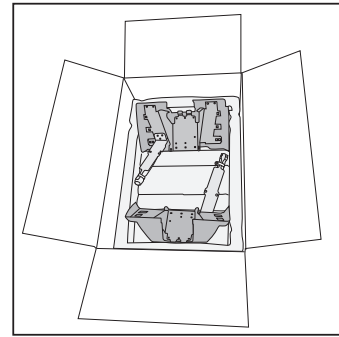

Figure 1
1. Remove unit from main carton. There are 2 units per carton. See **Figure 1**.